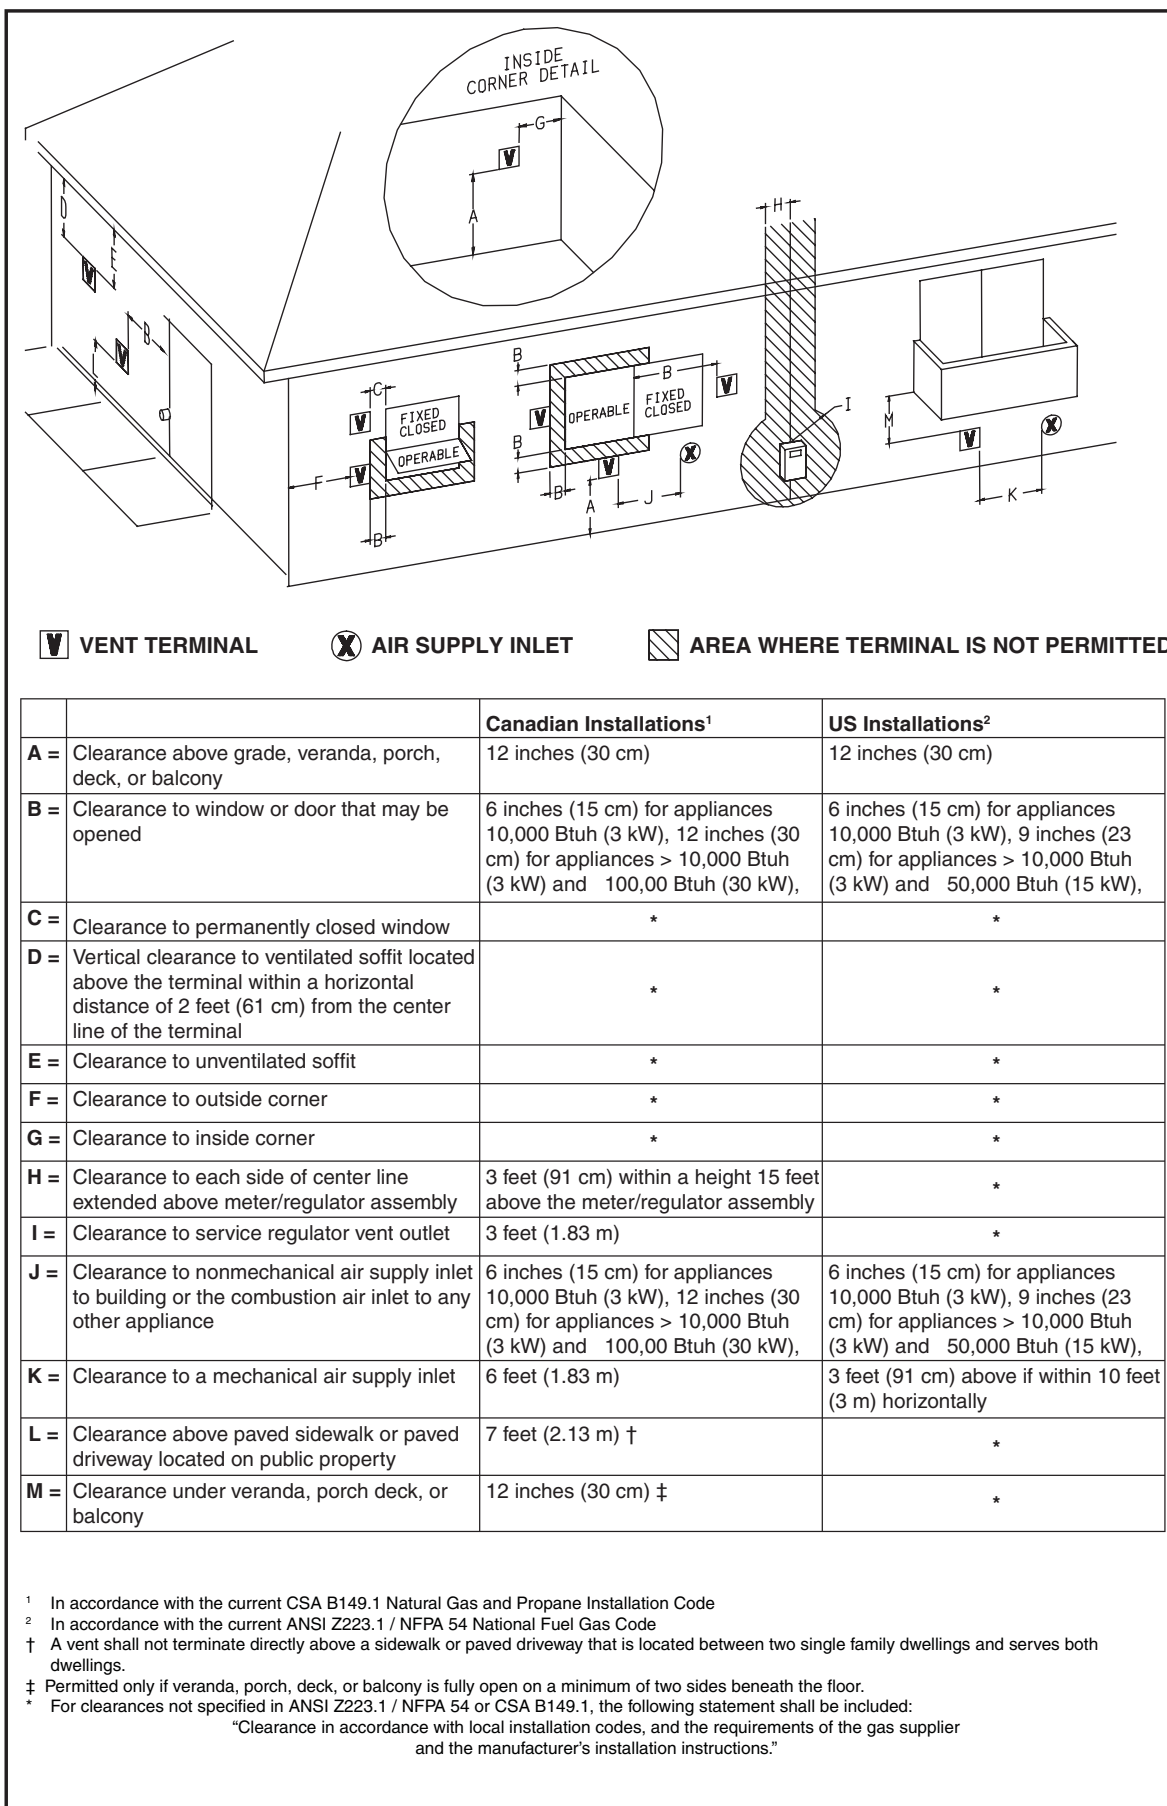

Figure 13. Vent Termination Clearances for Direct Vent Furnaces
Vent and combustion air intake terminations must be as shown in Figures 13 and 14. Vent termination clearances shall be consistent with the National Fuel Gas Code, ANSI Z223.1/NFPA 54 and/or the CSA B149.1, Natural Gas & Propane Installation code.
Vent and combustion air intake terminations must be located to ensure proper furnace operation and to conform to applicable codes. Figures 13 and 14 illustrate necessary distances from the vent termination to windows and building air intakes. **In Canada, the Canadian Fuel Gas Code takes precedence over these instructions. Specifically, all minimum distance requirements with respect to termination of the vent piping listed below (items 1 through 8).**